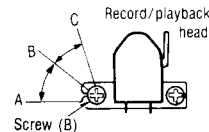

Fig. 3
2. Playback the 8kHz signal from the test tape (QZZCFM). Adjust screw (B) in fig. 3 for maximum output L-CH and R-CH levels. When the output levels of L-CH and R-CH are not at maximum at the same point adjust as follows.
3. Turn screw (B) shown in fig. 3 to find angles A and C (points where peak output levels for left and right channels are obtained). Then, locate angle B between angles A and C, i.e., point where L-CH and R-CH outputs are balanced. (Refer to figs. 3 and 4.)
5. Playback the 8kHz signal from the test tape (QZZCFM). Adjust screw (B) shown in fig. 3 so that pointers of the two VTVMs swing to maximum and a lissajous waveform as illustrated in fig. 6 is obtained on the oscilloscope.